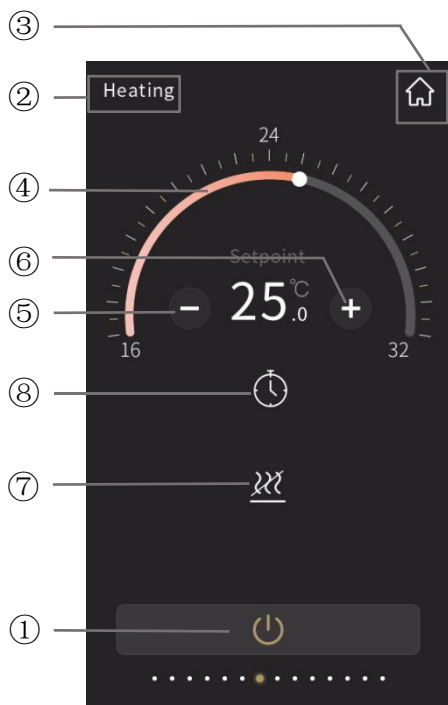
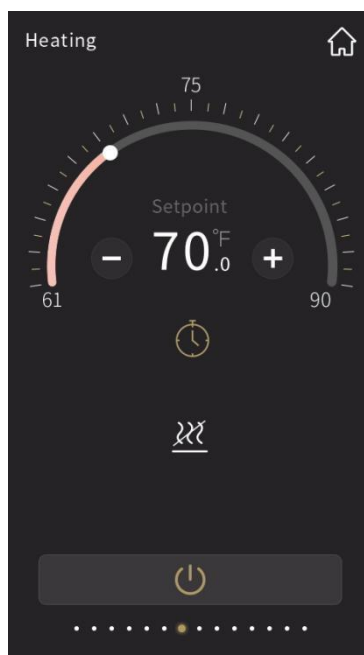

Fig.2.5.1
Fig.2.5.2
- ⑤ The function of this icon is to decrease the temperature;
**⑥ The function of this icon is to increase the temperature;**
Adjusting the temperature by sliding the ring slider④ or touching the icon⑤ and icon⑥. For each touching of icon⑤ and icon⑥, the adjustment range is 0.5 degrees. When the setting temperature unit is set to degrees Celsius(°C), as shown in Fig.2.5.1, adjustment range of the setting temperature is 16~32°C by default; when the setting temperature unit is set to Fahrenheit(°F), the current temperature value will automatically convert to Fahrenheit value, as shown in Fig.2.5.2, adjustment range of the setting temperature is 61~90°F by default. The temperature adjustment range can be modified through parameter setting.
**⑧ Turn on timer function by touching this icon;**
Icon⑧ on indicates timer turn on; icon⑧ off indicates timer turn off. Timer function can be enabled via the parameter configuration. When timer function is disabled, there would be no timer icon as shown as Fig.2.5.1 on the interface; when enabled, timer can be configured.